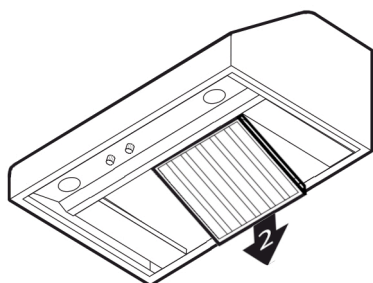

FIGURE 16: REMOVE THE STAINLESS STEEL BAFFLES – PART B
- b. Lower the rear edge of the baffle filter enough to clear the back edge of hood (FIGURE 16).